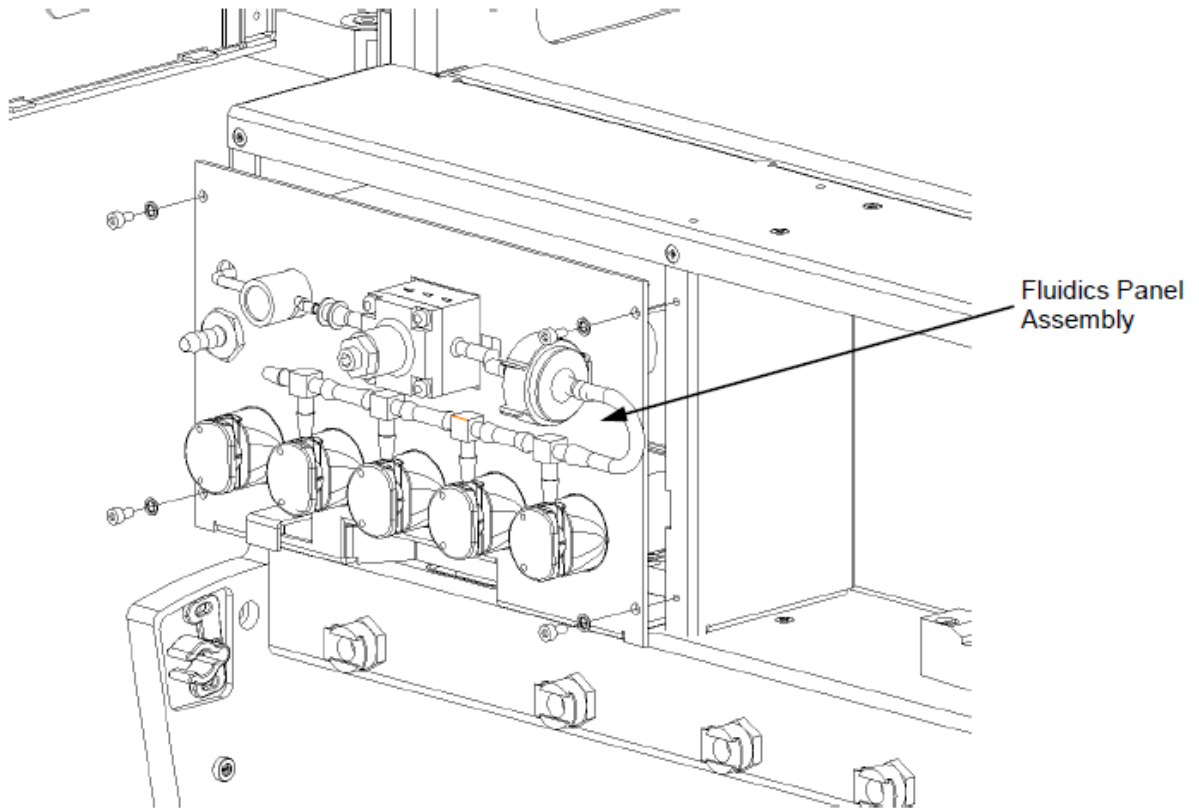

Figure G-1: Location of the Fluidics Panel Assembly
The *Fluidics Panel Assembly* is located on the lower left of the system (Figure G-1).
1. Remove the four screws attaching it to the system (Figure G-1).